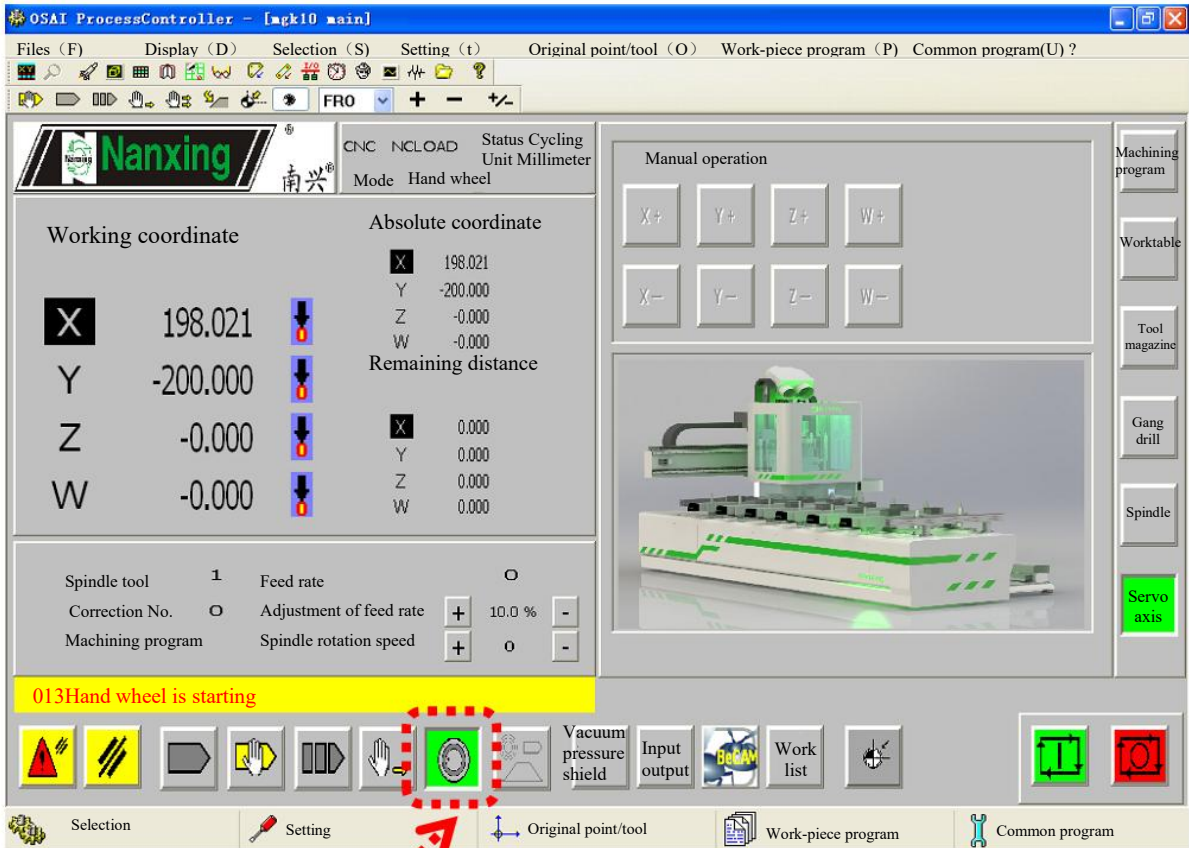

Fig.6.7
1. Click  as shown in Fig. 6.7